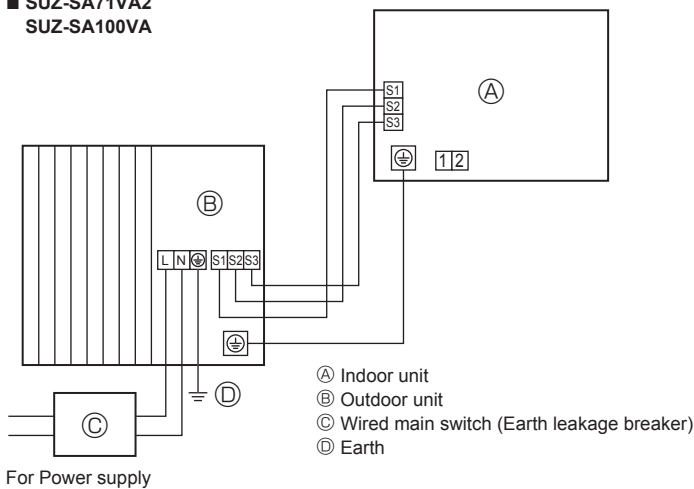
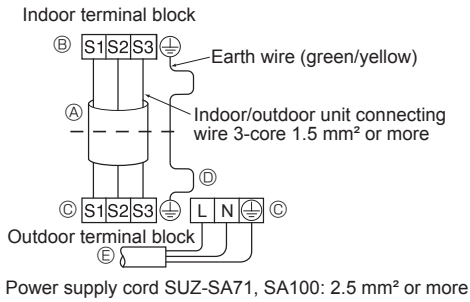
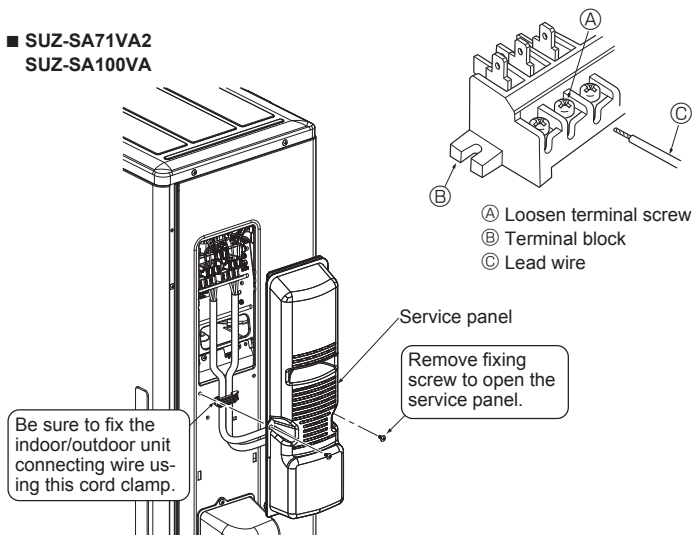

Fig. 5-1
Fig. 5-2
Fig. 5-3
### 5.1. Outdoor unit (Fig. 5-1, Fig. 5-2, Fig. 5-3, Fig. 5-4)
- Wire the cables referring to the Fig. 5-1, Fig. 5-2, Fig. 5-3 and the Fig. 5-4.
- Perform wiring as shown in the diagram to the lower left. (Procure the cable locally) (Fig. 5-2)
- (A) Connecting cable
- (B) Indoor terminal block
- (C) Outdoor terminal block
- (D) Always install an earth wire longer than other cables.
- (E) Power supply cord
- Use care not to make miswiring. (Fig. 5-3)